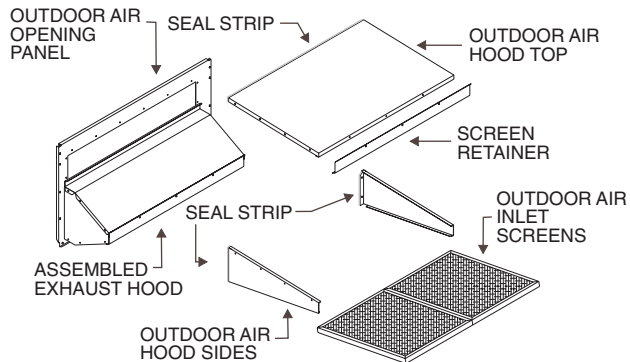

Fig. 22 — Outdoor-Air Hood Assembly
4. Install the $\frac{1}{8} \times \frac{3}{4}$ in. seal strip on the outdoor-air hood top and side panels. Assemble the outdoor-air hood to the outdoor-air opening panel as shown in Fig. 22, using the screws provided. *Do not attach hood assembly to the unit at this time.*